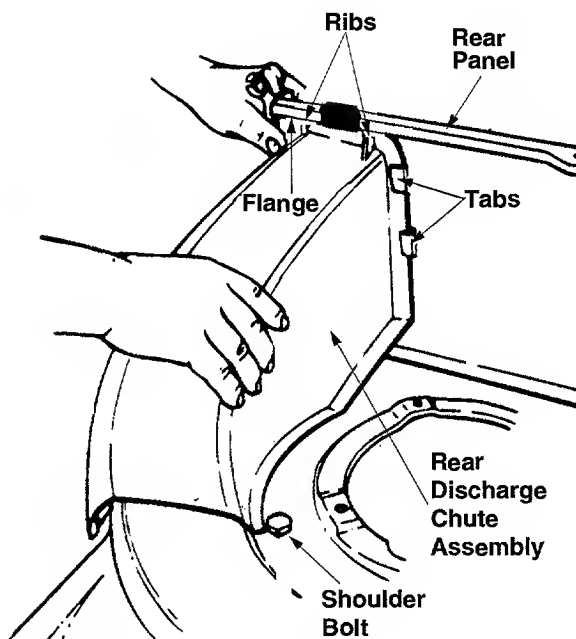

Figure 9
1. Slide the ribs on the discharge chute assembly under the flange on rear panel as you insert the side of the discharge chute under the two tabs. See Figure 9.